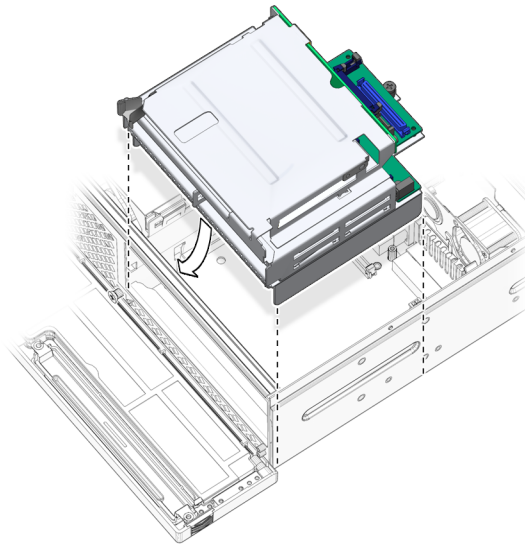

FIGURE 3-28 Setting the Mass Storage Assembly Into Place
3. **Pivot the front of the mass storage assembly down and lower the assembly into the chassis, sliding it forward (FIGURE 3-28).**